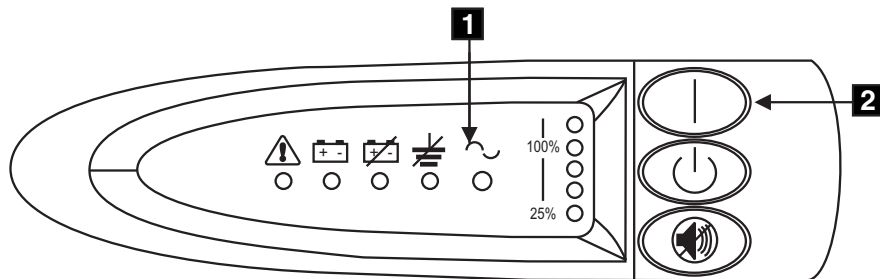

Figure 123. Power switch and indicators of the uninterruptible power supply
10. All the front panel indicators (see Figure 123) flash for a short time while the uninterruptible power supply runs a self test. When the test is complete, the mode indicator, **1** in Figure 123, flashes to show that the uninterruptible power supply is in standby mode.
Press and hold the uninterruptible power supply on the switch, **2** in Figure 123, until you hear the uninterruptible power supply beep (approximately one second). The mode indicator stops flashing and the load level indicators display the percentage of load that is being supplied by the uninterruptible power supply. The uninterruptible power supply is now in normal mode, and is charging its battery.